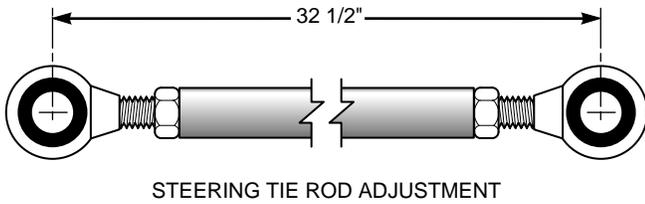

Figure 3
16. On the steering tie rod, adjust the ball joints on the tie rod so that you will get 32-1/2" distance between the center to center holes on the ball joints. (See figure 3)
20. Mount the seat spring and reinforcement seat spring above the sulky frame and mount the lower support plate below the sulky frame. Secure using the (2) two 7/16-14 x 4" bolts, (2) two 7/16" flat washer and (2) two 7/16-14 elastic stop nuts.